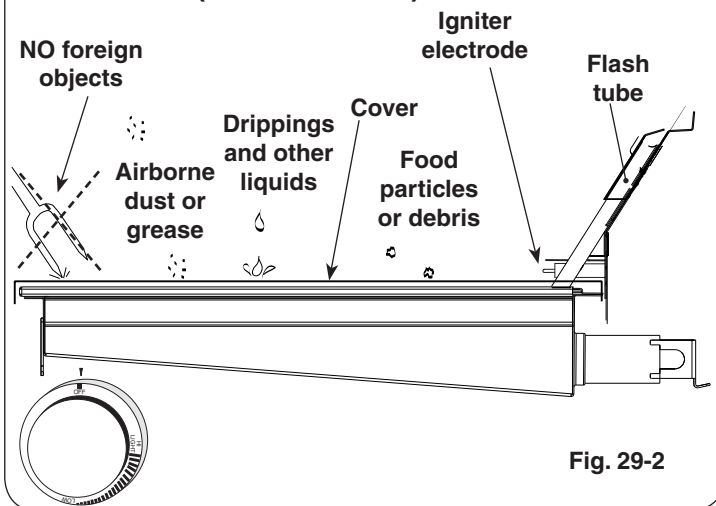

Fig. 29-2
- When not in use, **always** cover the infrared burner with the stainless-steel cover. This protects the burner from drippings (from other cooking), airborne particles, and foreign objects (Fig. 29-2).
- Do not strike or scratch the burner ceramic as it may chip, crack, or break (Fig. 29-2).